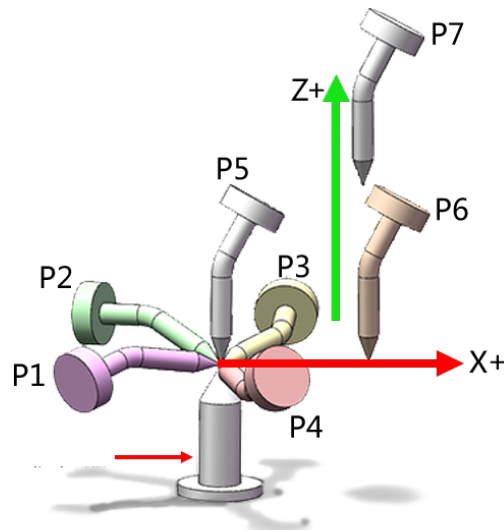

Figure 3-42 : When Teaching the Coordinate System with Three-point Method
- It should be noted that the control points of P1-P5 for this case must be always in contact with the tip of the calibration gun, as presented in **Figure 3-42**